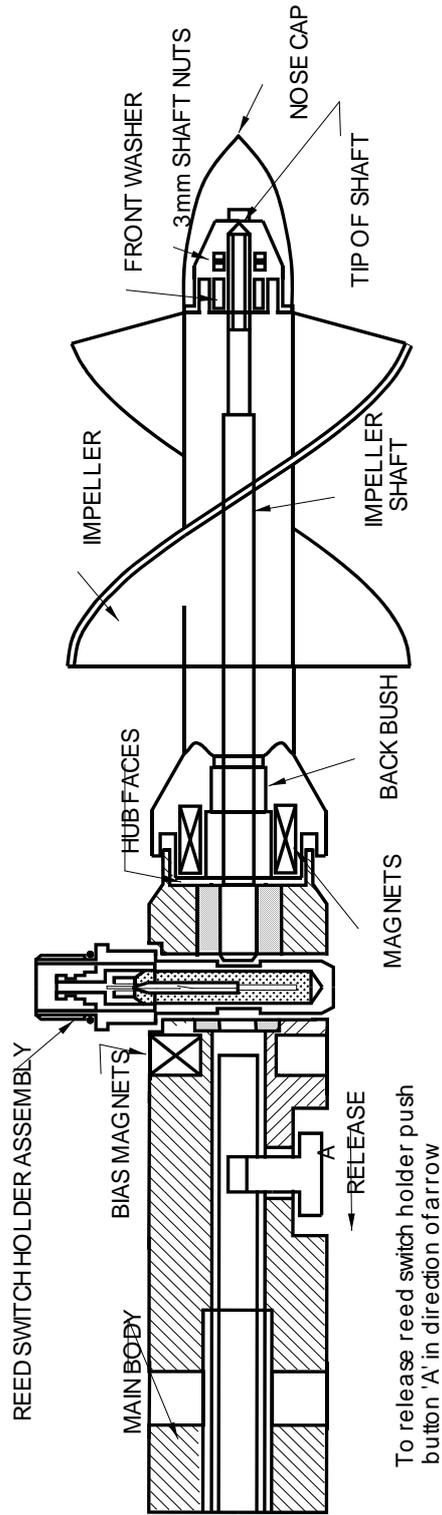

Figure 3 - Sectional Diagram of BFM002
8.3. Figure 3 - Sectional Diagram of BFM002